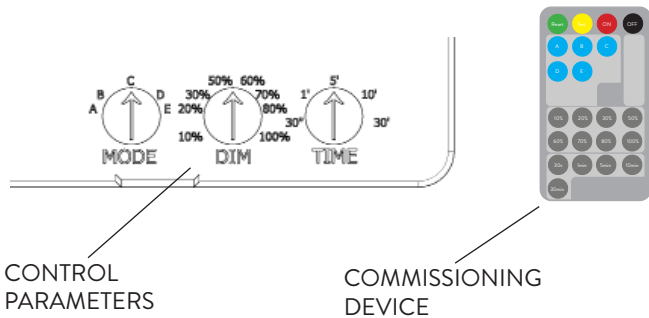

FIG. 12
- The Control Parameters are adjustable on the Sensor or by a wireless Commissioning Device. The Control Parameters allow the user to adjust the Mode (A thru E), Dimming (10% thru 100%), and Time (30 sec thru 30 min) Level (Fig. 12). The Control Modes are given in more detail in the next column.